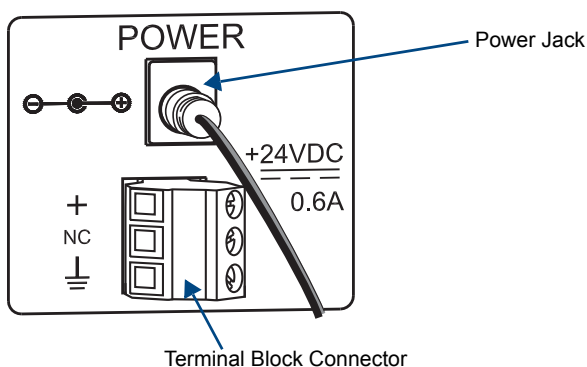

FIG. 11 Insert the plug into the power jack
1. Insert the power plug from the transformer into the power jack on the CP-15 Remote (FIG. 11).